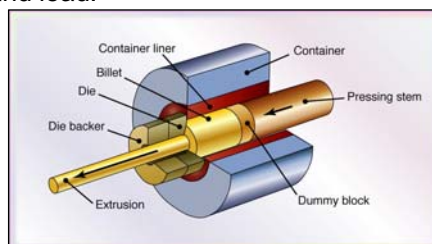

Figure 15.1 Schematic illustration of the direct-extrusion process.
- **Extrusion:** the material is forced through a die (similar to squeezing a toothpaste) taking the shape of the die opening which may be round, or may have various shapes (Fig. 15.1).